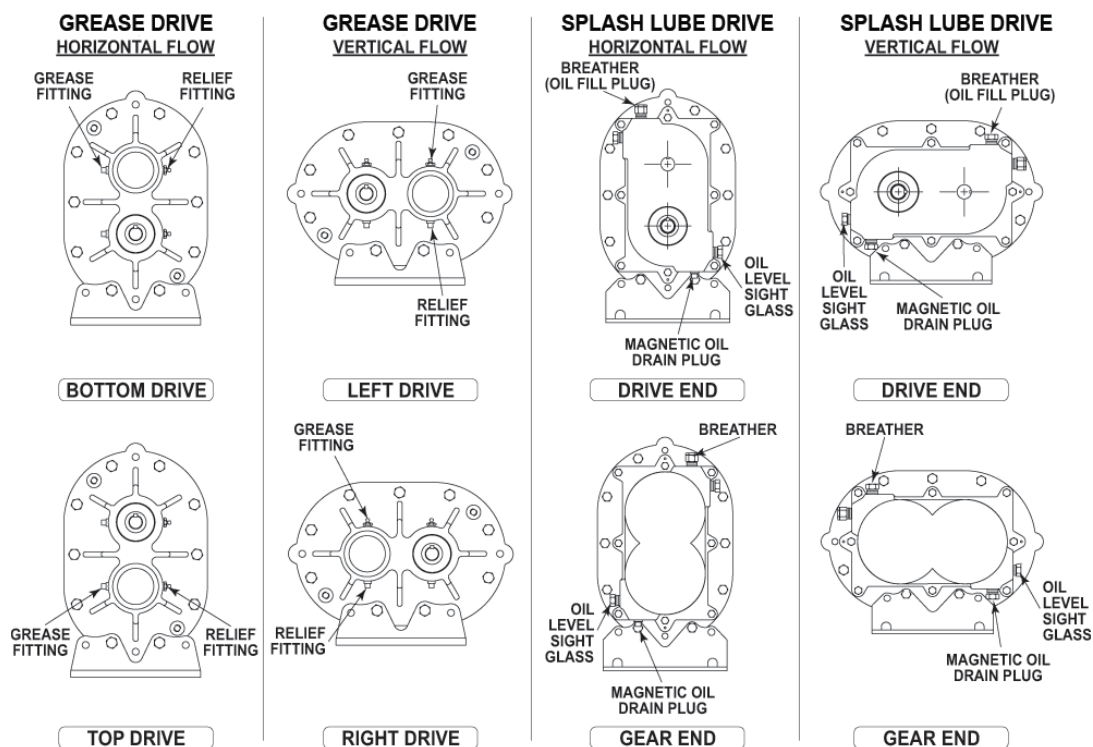

Figure 5-3 – Location of Oil Fill, Drain and Level Gauges on CP Series Blowers
Add oil to the blower in the quantity listed in *Table 4-1 on page 8*. Make sure oil level is maintained within the notched area of the sight glass. *See Figure 5-3*. Lower drive blowers have “bull’s eye” type oil level gauges. Maintain oil levels at the center of the glass.
Most CP Series blowers are shipped from the factory in a left hand drive, vertical flow configuration. If drive shaft location is changed, the oil level plugs, sight glasses and breathers must be relocated to proper positions, as shown in **Figure 5-3**. Failure to change plug location will result in blower failure and void the product warranty.
**See Figure 5-3. See Recommended Lubricants on page 42** for suggested lubricants and grease.
**NOTE:** See *Figure 5-3* for locations of grease fittings and grease reliefs for horizontal and vertical flow blowers.